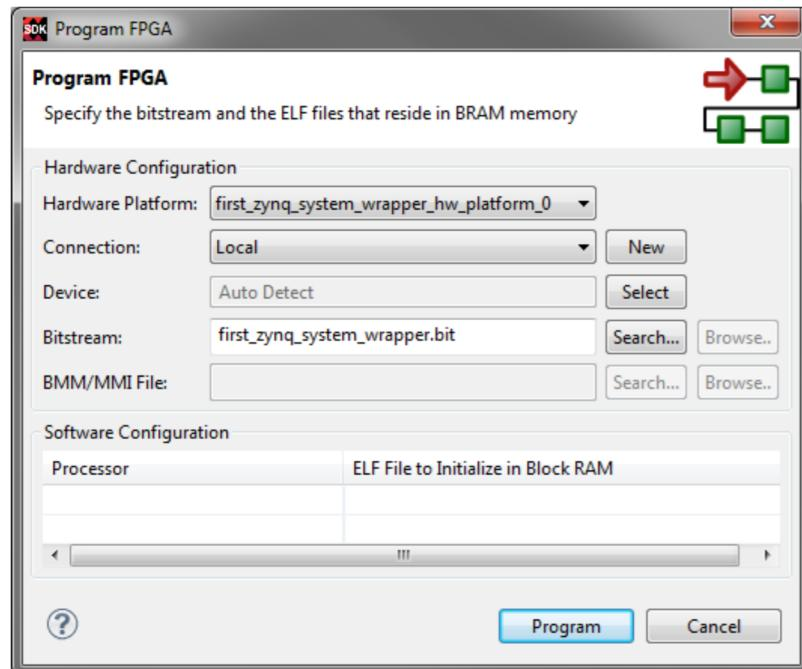

Figure 1.36: Program FPGA dialogue Window
- Resume** (j) Download the bitstream to the Zynq PL by selecting **Xilinx Tools > Program FPGA** from the *Menu bar*. The *Program FPGA* window will appear. The Bitstream field should already be populated with the correct bitstream file, as in Figure 1.36.